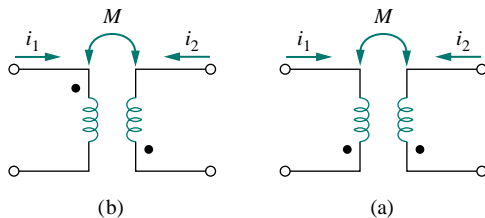

Figure 13.69 For Review Questions 13.1 and 13.2.
- 13.1** Refer to the two magnetically coupled coils of Fig. 13.69(a). The polarity of the mutual voltage is:
- 13.2** For the two magnetically coupled coils of Fig. 13.69(b), the polarity of the mutual voltage is: